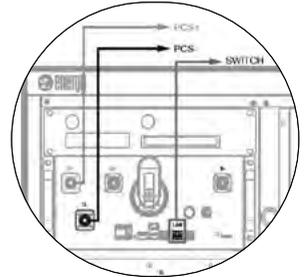

Fig. 8.13
- Connect the DC power supply of the BMS to the terminals of the PCS (Fig. 8.13).